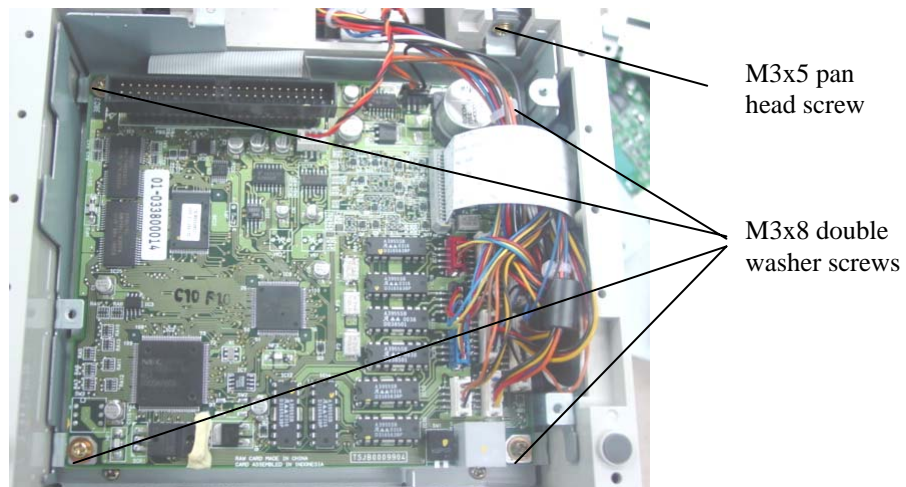

Figure 24 – Assembly of connectors to the Check Scanner Main PC Board
9. Fasten the Check Scanner Main PC Board at the four corners with M3x8 double washer screws (part 8C) (Figure 24)